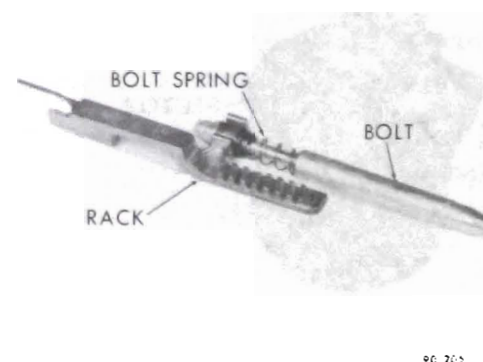

Figure 90-124 - Assembling Bolt to Rack Cross-Over Arm
4. Assemble the bolt to the cross-over arm of the rack. See Figure 90-124.